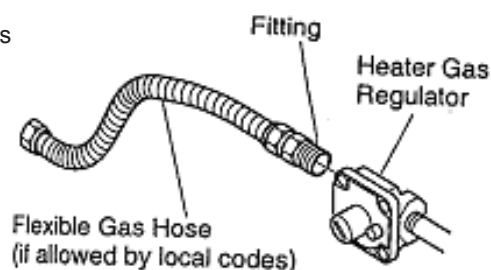

Figure 12 - Attaching Flexible Gas Hose to Heater Gas Regulator
1. Apply pipe joint sealant lightly to fitting threads. Connect approved flexible gas hose to gas regulator of heater (see Figure 12). **NOTE:** Never apply pipe sealant to flare fitting threads
7. Mark screw locations through holes in mounting brackets (see Figure 12). If installing in a brick-bottom fireplace, mark screw locations in mortar joint of bricks.